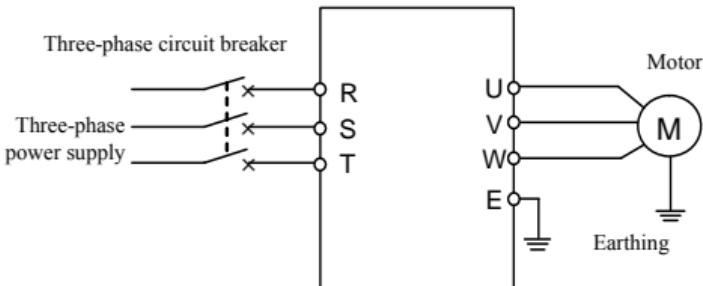

Figure 4-2 Simple Running Wiring Diagram
- ① Connect wires as per Figure 4-2;
- ② Switch on the power supply after confirming that the wires are connected correctly, and the inverter will firstly display “P.OFF” and then “0”.
- ③ Confirm that the frequency setting channel is at the digit setting model ([F0.00] = 0);
- ④ It is required to set parameter [F0.12] and [F0.13] according to the rated nameplate data on the inverter’s dragging motor.
- ⑤ Press  key to start the inverter and the inverter will input 0 frequency, displaying “0.0”.
- ⑥ Press Up of  key to increase set frequency, and the output frequency of the inverter will increase and the motor revolution will also increase.
- ⑦ Check if the motor run normally. In case of any abnormality, stop running the motor immediately and disconnect power supply. Do not run the motor until fault cause is found.
- ⑧ Press Down on the  key to decrease set frequency.
- ⑨ Press  key again to stop running and cut off the power supply.